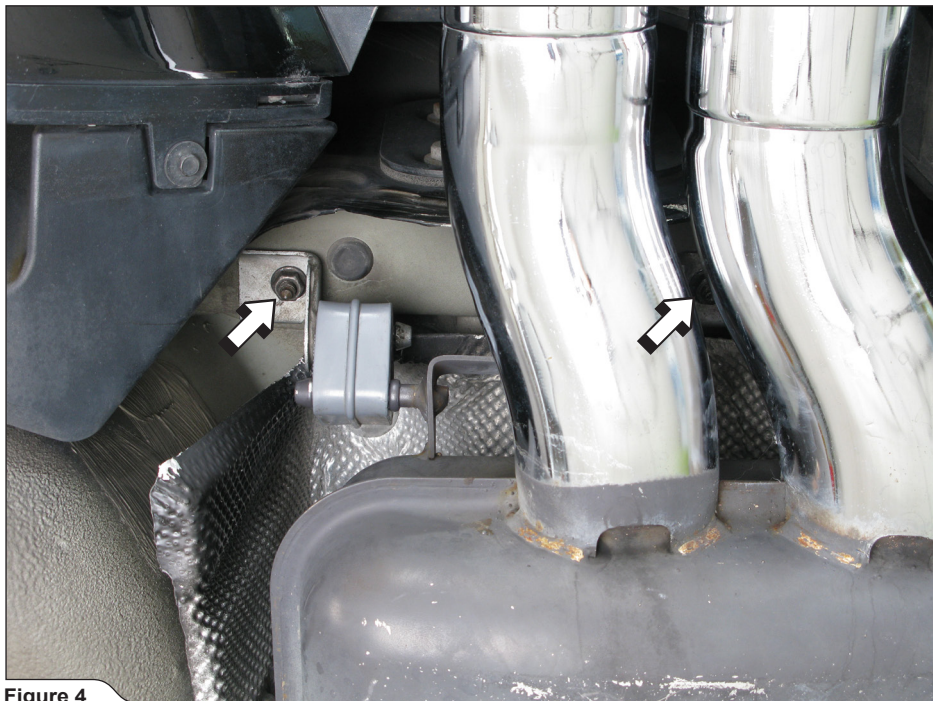

Figure 4
4. **For Slip-On and Evolution:** unscrew the marked rubber bracket nuts on both sides of the vehicle and remove the stock exhaust system off the vehicle (**Figure 4**).